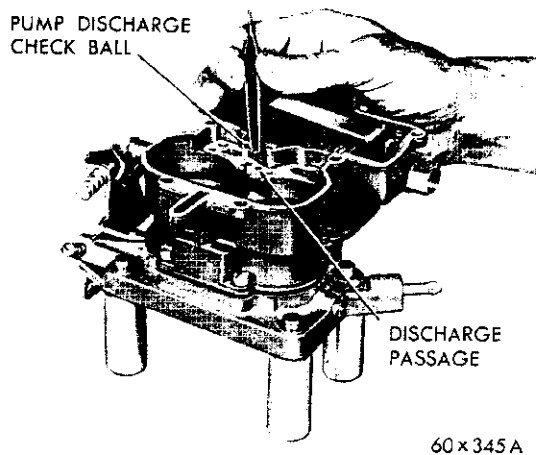

Fig. 16—Installing the Discharge Check Ball
(5) Install the accelerator pump discharge check ball $\frac{1}{8}$ inch) in the discharge passage, as shown in Figure 16.